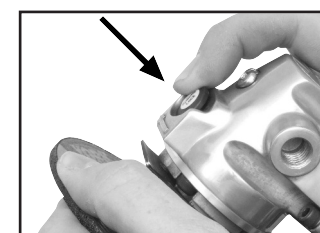

Fig. 3
2. To hold the spindle in place, depress the spindle lock button and rotate the spindle until the spindle lock locates and the spindle will not move (See fig. 3).